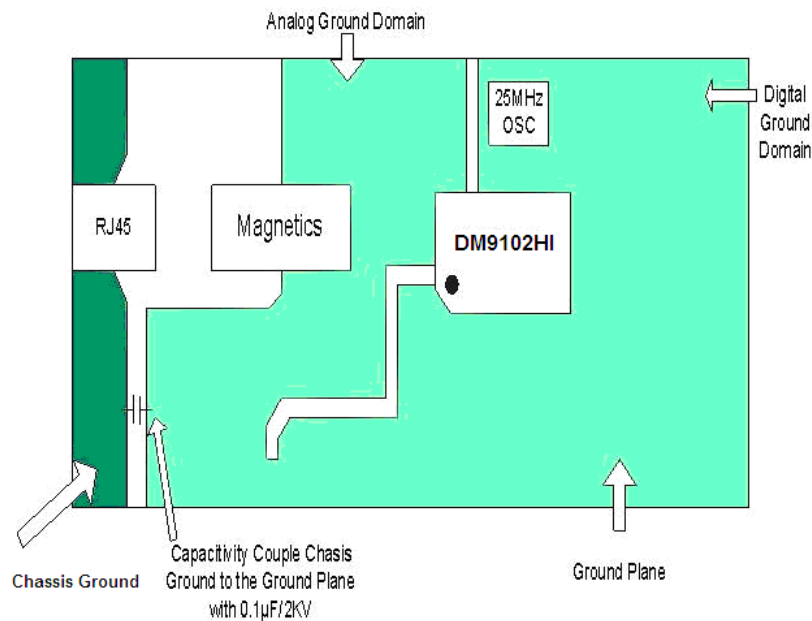

Figure 9-4-1
power or ground planes in the area under the network side of the transformer to include the area under the RJ-45 connector (Refer to Figure 9-4-1 and 9-5). Keep chassis ground away from all active signals. The RJ-45 connector and any unused pins should be tied to chassis ground through a resistor divider network and a 2KV bypass capacitor.
- The ground plane must be separated into Analog ground domain and Digital ground domain. The line which connects the analog ground domain and digital ground domain should be far away from the AGND pins of DM9102HI (see Figure 9-4-1).